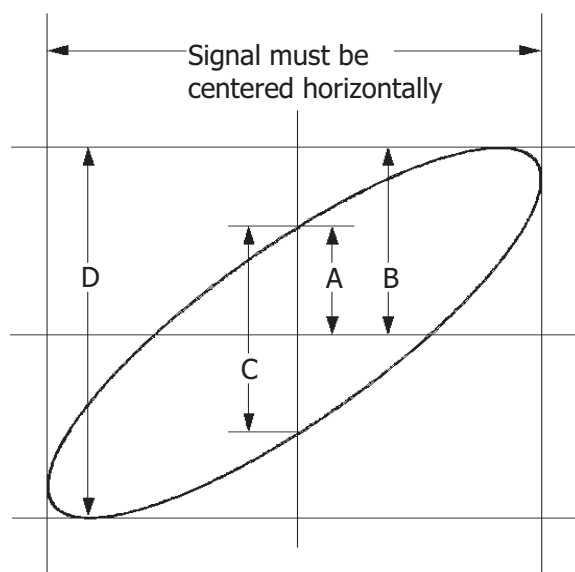

Figure 4-1 Measurement Schematic Diagram of Phase Deviation
4. Observe the measurement result shown in the figure above. According to the measurement schematic diagram of the phase deviation (as shown in Figure 4-1), $A/B(C/D) = 1$. Thus, the phase deviation angle of the two channel input signals is $\theta = \pm \arcsin 1 = 90^\circ$.